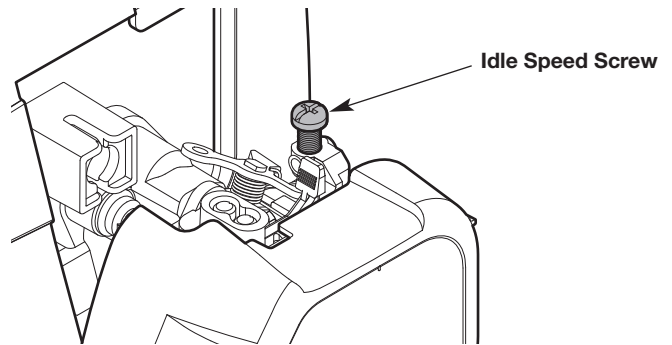

Fig. 25
- If the engine stops, increase the idle speed. Use a small Phillips screwdriver to turn the idle speed screw clockwise, 1/8 of a turn at a time, until the engine idles smoothly (Fig. 25).
- If the cutting head spins when the engine idles, reduce the idle speed. Turn the idle speed screw counterclockwise, 1/8 of a turn at a time, until the cutting head stops moving (Fig. 25).
4. Use a feeler gauge to set the air gap at **0.025 in. (0.635 mm)** (Fig. 25).